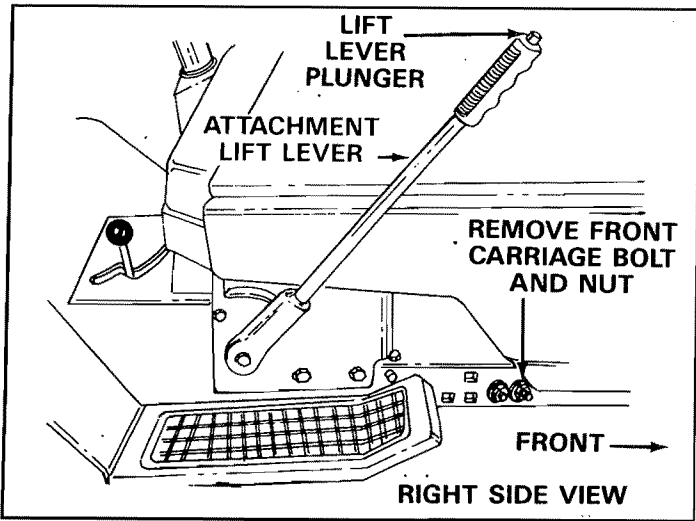

FIGURE 18
18. Raise hood and remove 3/8" carriage bolt and nut from right hand side of frame. See figure 18.